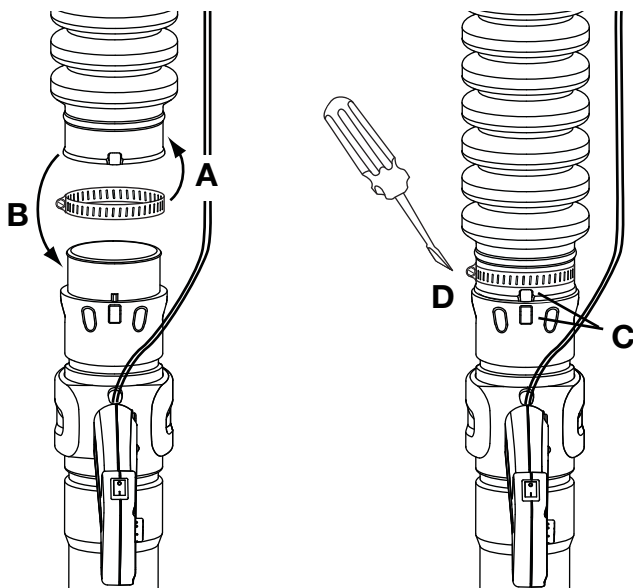

Fig. 2
1. Place a hose clamp over the other end of the Flex Tube (Fig. 2, A).
2. Slide the end of the hose with the clamp on it over the top end of the upper blower tube (Fig. 2, B).
3. Align the bump on the Flex Tube with the bump on the upper blower tube (Fig. 2, C).
4. Tighten the screw on the hose clamp to secure the Flex Tube to the upper blower tube (Fig. 2, D).